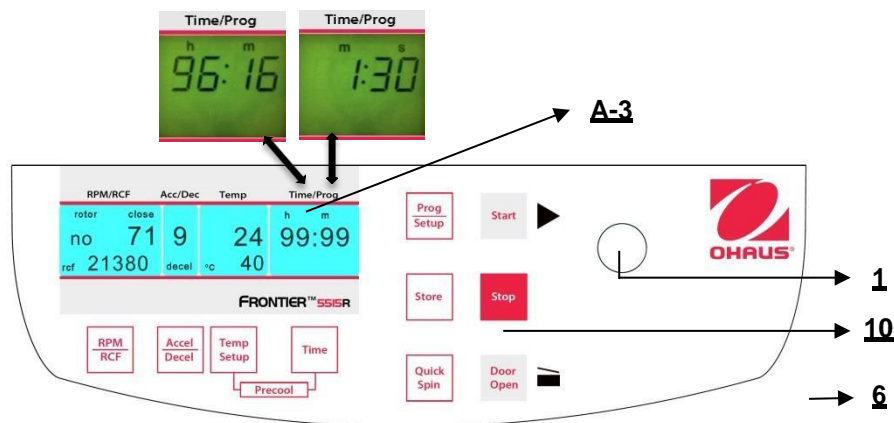

Figure. 17
3. The continuous run **"cont"**, which can be interrupted by the key **"Stop"**(10) (refer to figure 17).
The display always shows the remaining running time. (See figure 17)